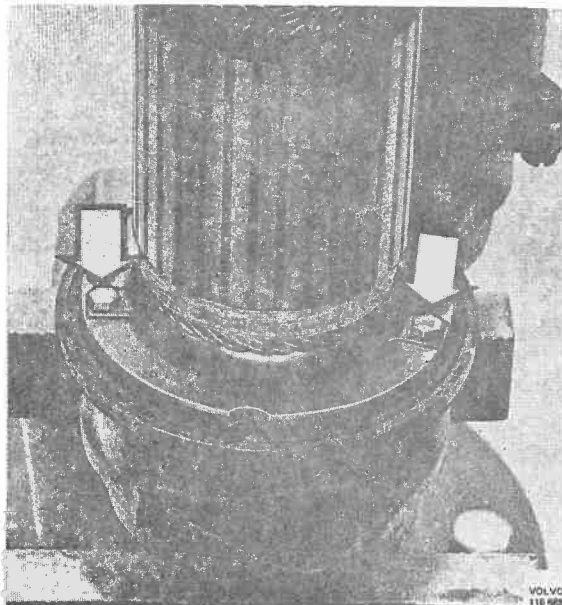

Fig. 33-13. Removing the bolts for the intermediate bearing
6. Remove the three bolts and lock washers securing the intermediate bearing, Fig. 33-13.